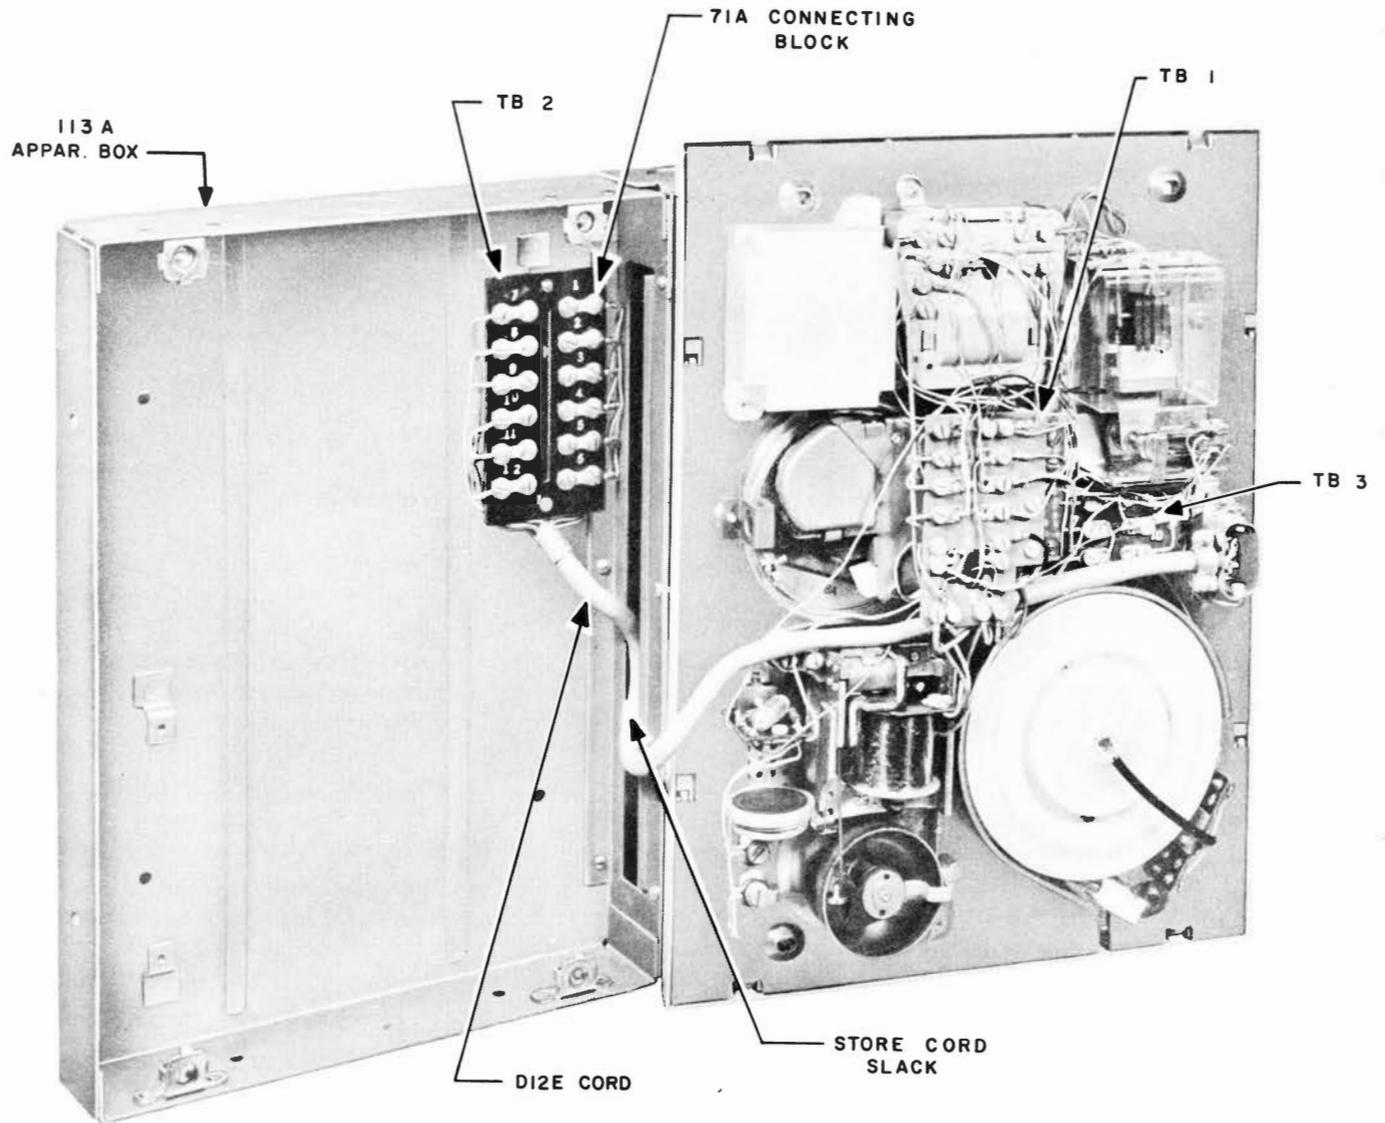

Fig. 12 - 751-Type Telephone Set With 113A Apparatus Box
2. Terminate inside wire or cable in accordance with sections covering connections for particular set. Dress slack wire or cable against back of apparatus box or in applique to avoid interference with set components. Fig. 12 illustrates a